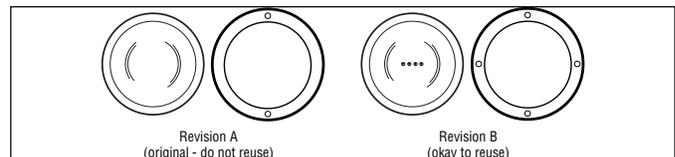

Figure 7
1.1.21 Closely examine the inner surface of the button cover and the top surface of the inflator bezel to determine whether these are current revision parts (see Fig. 7). If the inner surface of the button cover contains four raised dots and the top surface of the inflator bezel contains four bore holes, they are of the current revision and can be reused if no signs of wear or damage are visible. If either of these cannot be identified as a current revision part, it is very important to discard and replace both of them as a set, in addition to several other parts which are provided in the Revision B Upgrade Kit – P/N 42642.